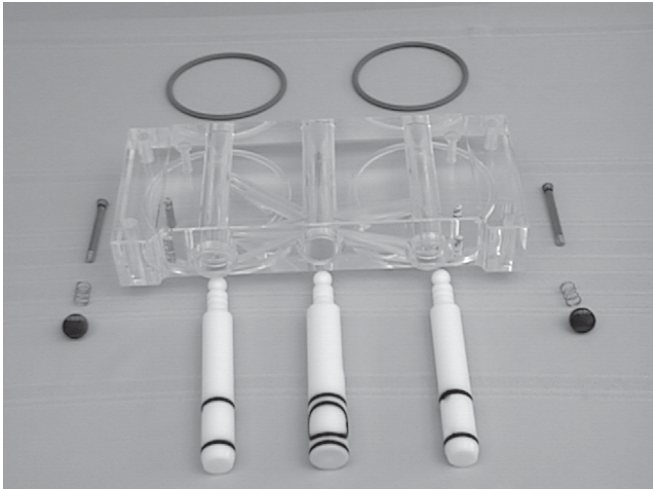

Figure 18. Front Door Assembly
- H. Install the spigots through the bottom of the front door (see Figure 18).